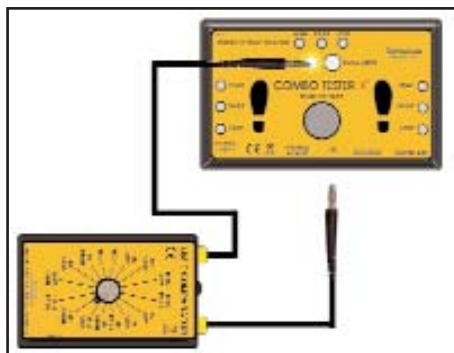

Figure 5. Wrist strap test setup
**Testing Wrist Strap Circuit, refer to figure 5.**